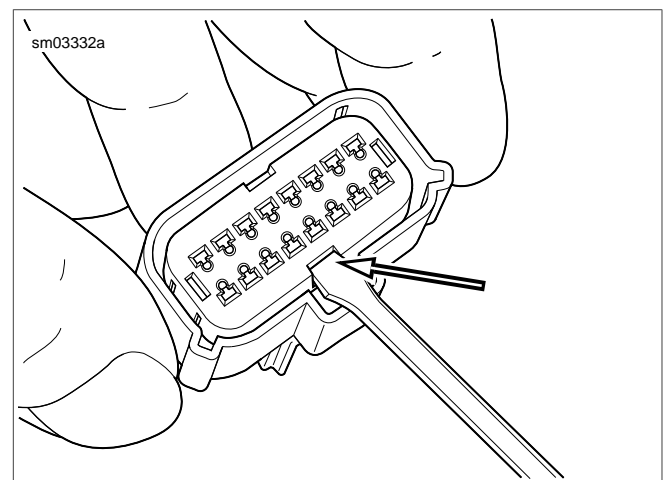

Figure A-47. Secondary Lock Pry Slot (Socket Housing)
- a. **Socket Housing:** See Figure A-47. Use a small screwdriver in the pry slot. The slot next to the external latch provides a pivot point.